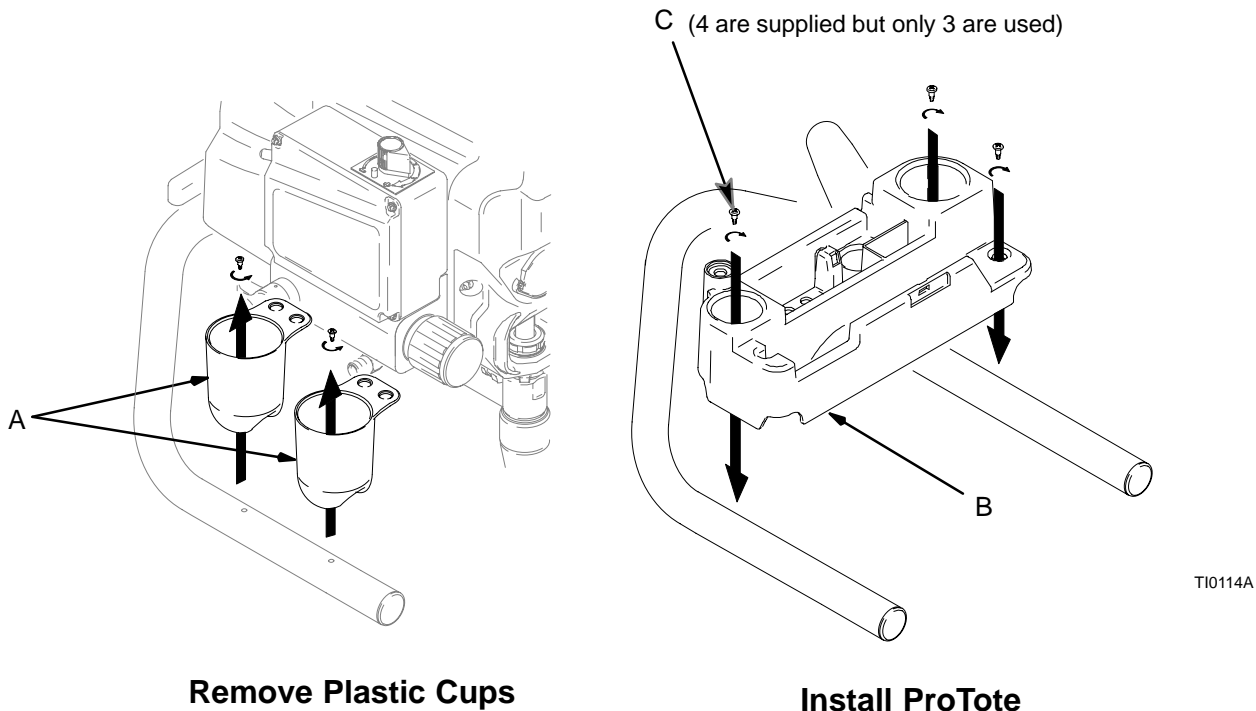

Fig. 1
2. Fig. 1. Remove existing plastic cups (A) from sprayer stand.
3. Position ProTote (B) near bends on tubular legs.